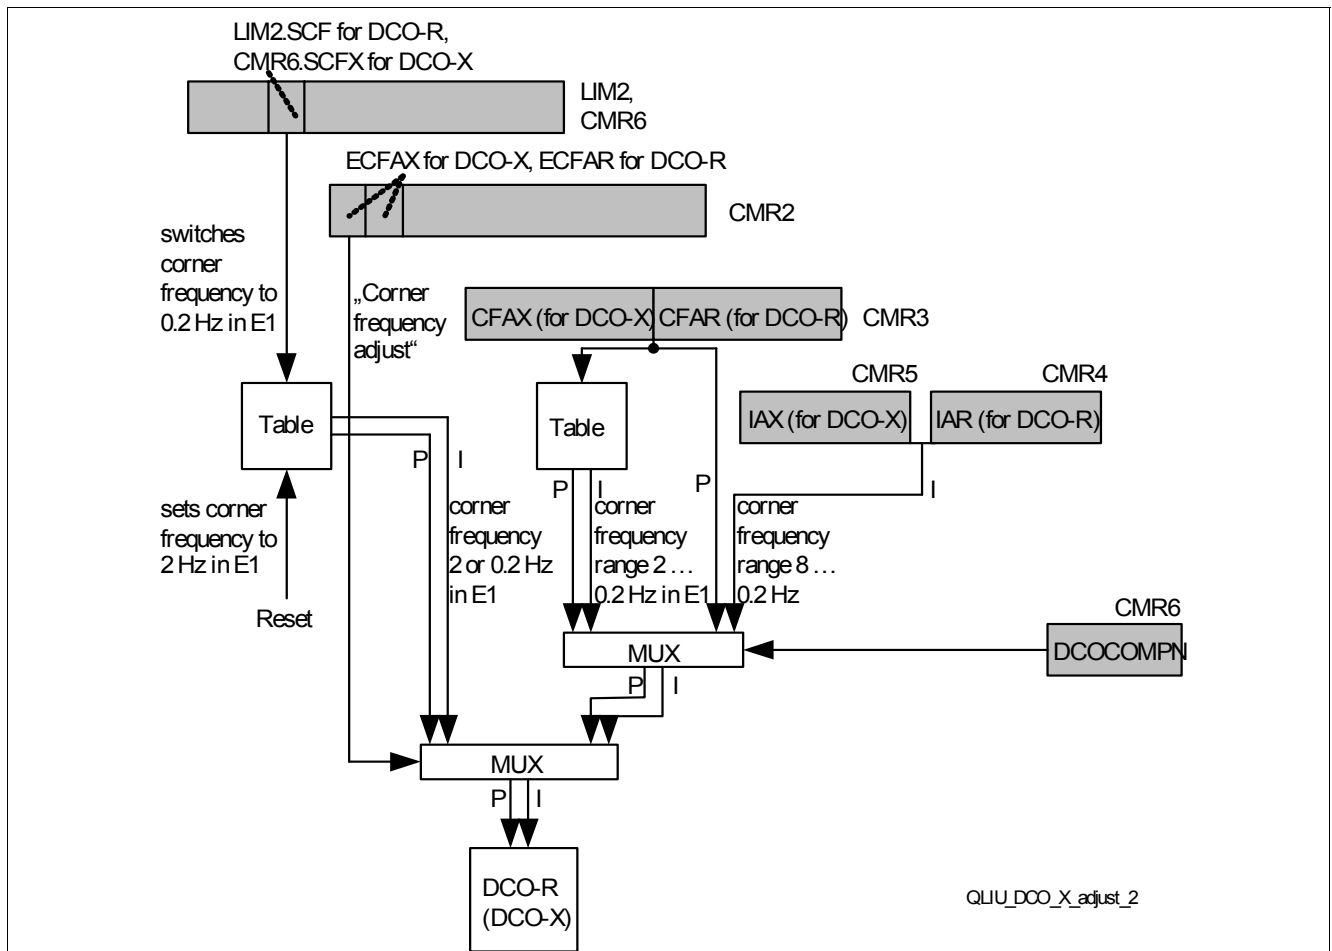

Figure 29 Principle of Configuring the DCO-R and DCO-X Corner Frequencies
The corner frequency of the DCO-R can be configured in a wide range, see Table 23 and Figure 29. The jitter attenuator PLL in the transmit path, so called as DCO-X, is equivalent to the DCO-R so that the principle for its configuring is the same.
After reset the corner frequencies are 2 Hz in E1 and 6 Hz in T1/J1 mode and can be switched to 0.2 Hz in E1 mode or 0.6 Hz in T1 mode by setting the register bit LIM2.SCF for the DCO-R or the register bit CMR5.SCFX for the DCO-X respectively. A logical table builds the integral (I) and proportional (P) parameter for the PI filter of the DCO-R or DCO-X, see Figure 29.